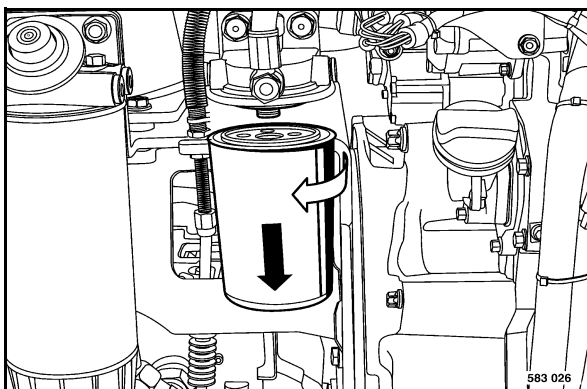

Fig. 157
- Loosen and unscrew the fuel filter cartridge (Fig. 157) using an appropriate filter wrench.